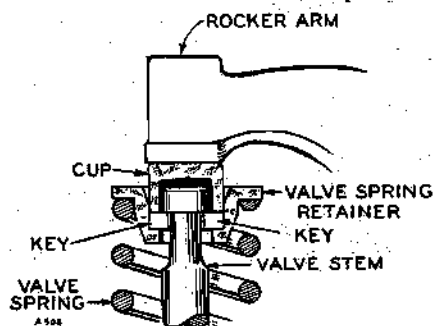

FIG. 22. VALVE ROTATORS
**VALVE SERVICE.** - The engine is equipped with the "FREE" ROTO type valves (also known as the release type valve rotators) see Figure 22. The valve rotates by using a special valve spring retainer and cap. While the valve is lifted, it is free to rotate due to natural vibration and turbulence of the exhaust gases and this scuffing action prevents the formation of any troublesome deposits.
The rotator mechanism has a clearance between the valve tip and the rotator cap, as shown in Figure 22. This clearance is required to obtain positive freedom of the valve during the lift cycle. Wear occurs principally on the keys and clearance should be checked at each reconditioning. Wear tends to increase the clearance and cause increased valve lash. Regular service stations have gauges to check the rotator clearance and where the clearance is too large it can be reduced by grinding off the cap to decrease its depth. The rotator parts tend to become matched parts within each assembly as they wear in. For this reason it is highly desirable to keep the parts from each assembly separate during the servicing operation and to reassemble them with their original valve wherever possible. In addition each key should be installed in its original position and not turned over. If it is necessary to use a new valve, new caps and keys should be installed.